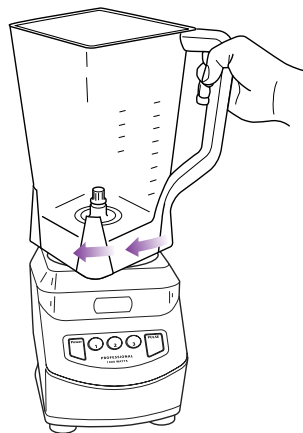

Fig. 2
- 3 Rotate the pitcher to the left as far as it will go. As the pitcher rotates, it will lower and the safety tabs on the bottom of the pitcher will slide under the safety tabs on the top of the motor base. The pitcher can be placed on the motor base two ways; the handle can be on the front right corner or the front left corner. (Fig. 2)